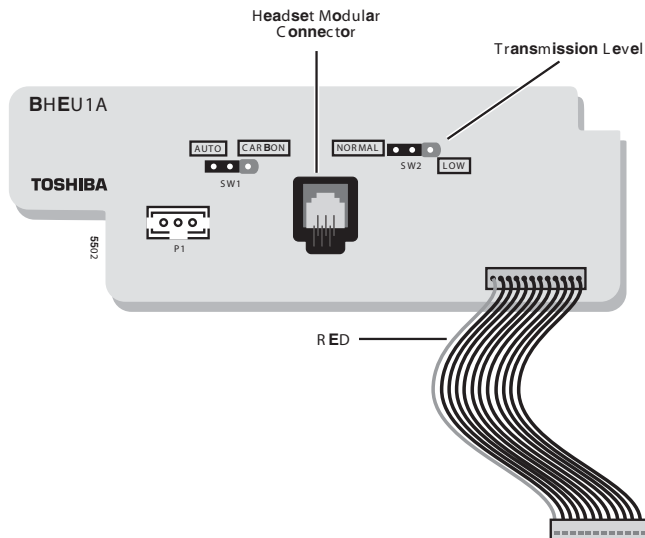

Figure 7-4 BHEU PCB
2. If you are connecting an ECM or Carbon-type headset to the BHEU, leave the BHEU jumper in the “AUTO” position (see Figure 7-4).